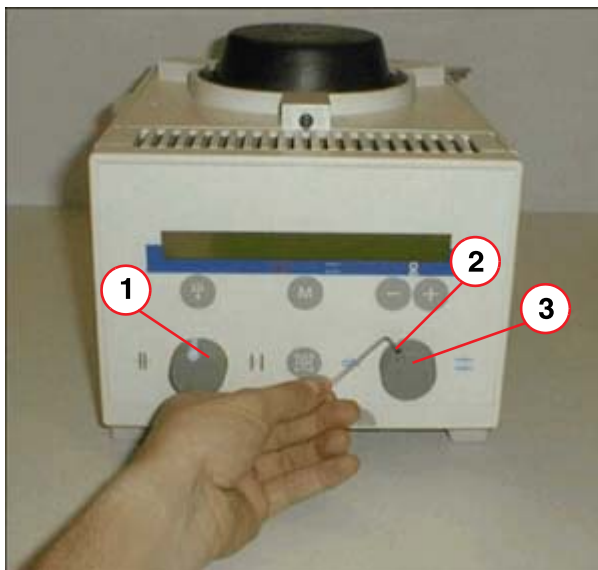

Fig. 6: Collimator
- Pull out the markers (1/Fig. 6 / p. 19) in the direction of the front cover.
- Loosen the clamping screws at the buttons (2/Fig. 6 / p. 19) and remove the buttons (3/Fig. 6 / p. 19).